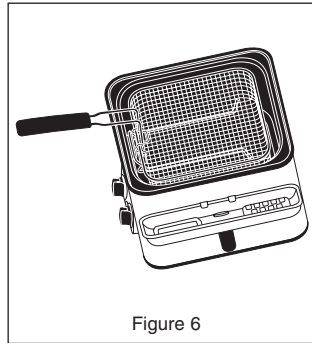

Figure 6
3. Turn the temperature knob clockwise to the recommended temperature setting. The power light will turn to red and the oil will begin to heat up. Hang the basket (empty) (Fig. 6).